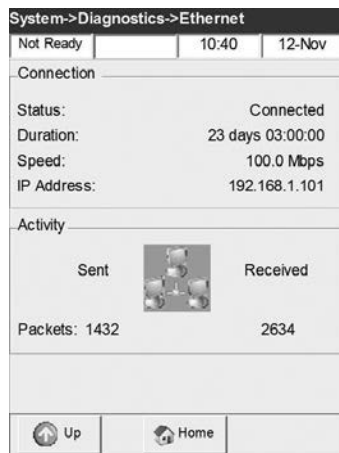

Fig. 7-42 Ethernet Test
- The system will send out data and check if they are received (Fig. 7-42).